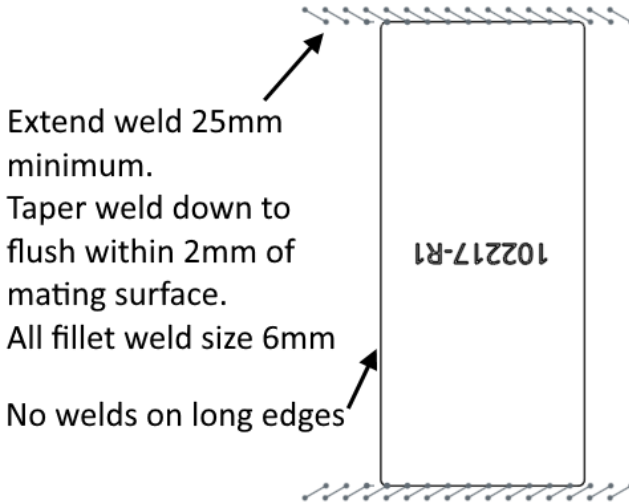

Figure 14: Welding instructions for the backing plate.
- Weld the backing plate to the excavator arm following the instructions in Figure 14 below. Use welding consumable that is compatible to ASTM A572 Grade 50 base material.